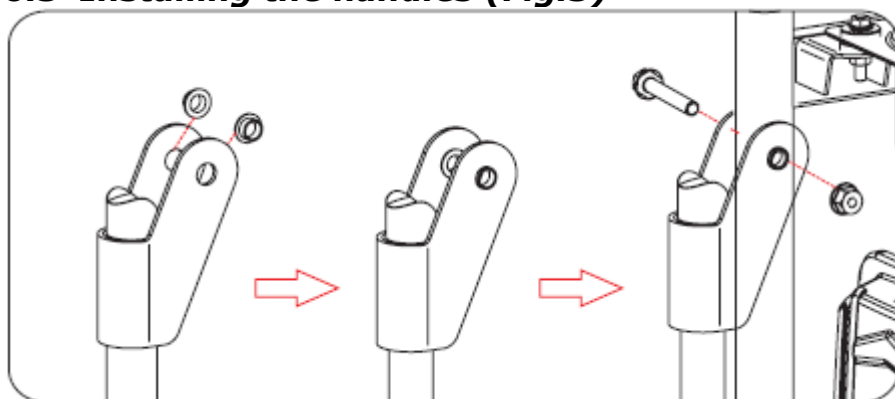

Fig. 5
6.5 Installing the handles (Fig.5)